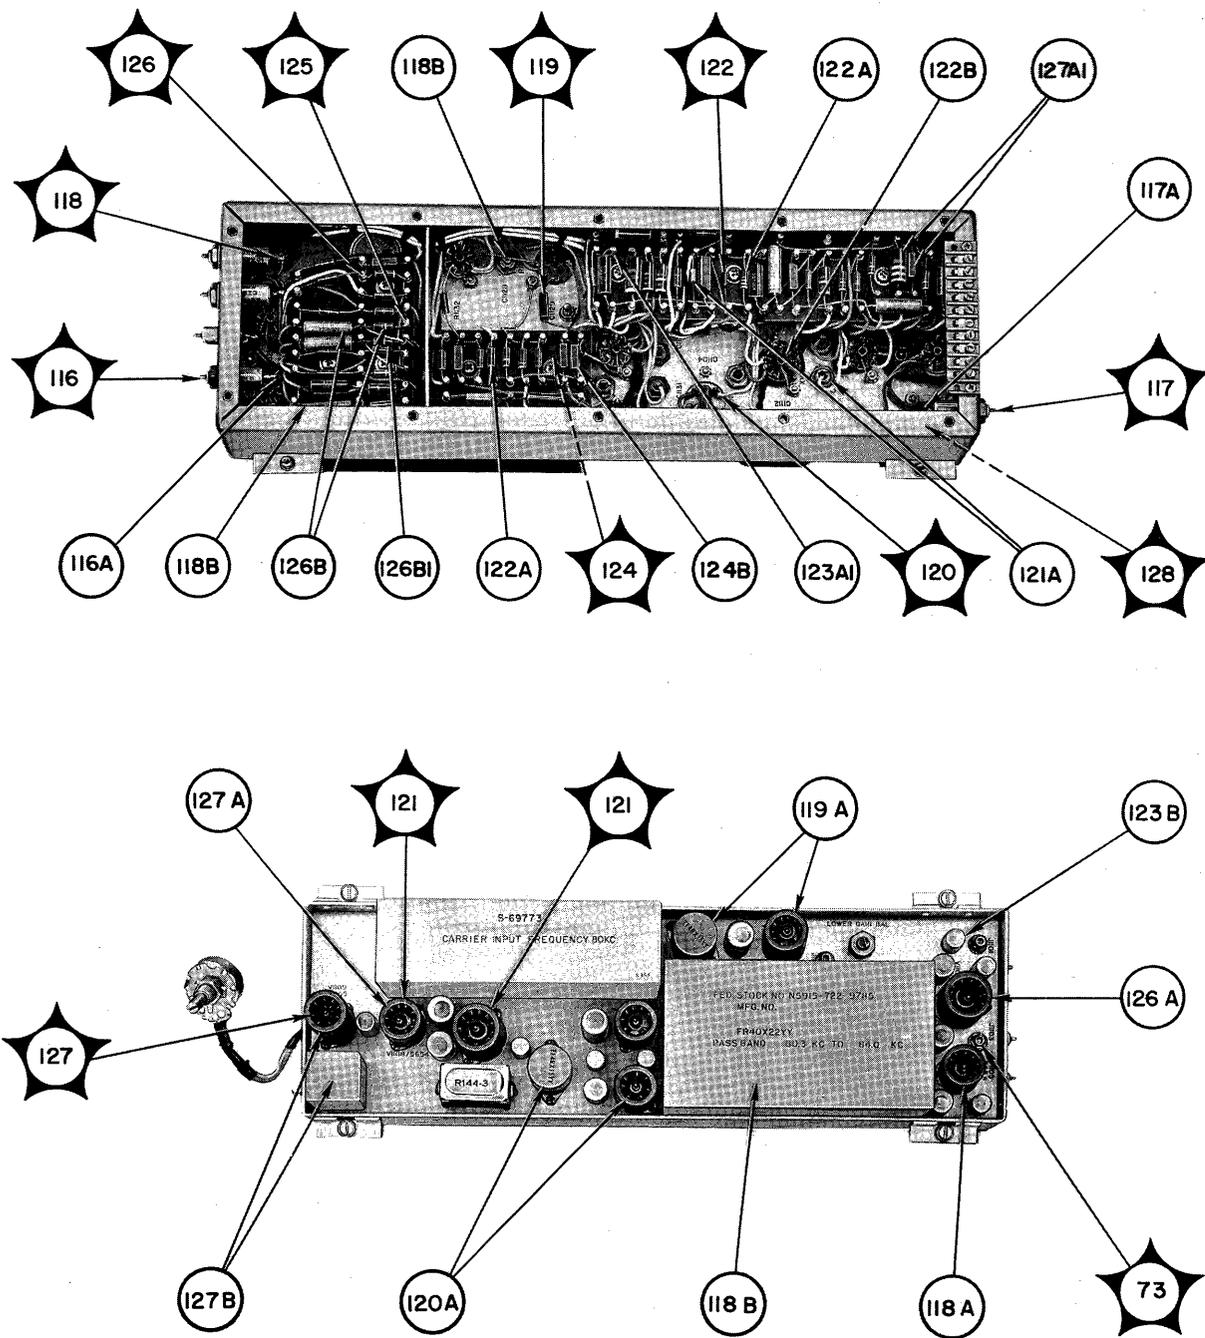

Figure 5-73. LSB Detector-Amplifier, Location of Test Points
b. ACCESS.—The LSB detector-amplifier is located in the lower demodulator deck. Raise the upper deck for access to the top; tilt the whole drawer for access to the bottom. Figure 5-72 shows the location of parts and figure 5-73 the location of test points.
- (1) Seating of tubes V1101 through V1109 in their sockets
- (2) Cable connections at J1101, J1102, J1103, and TB1101
- (3) Soldered connections at chassis feed-through terminals
- (4) Mechanical operation of panel controls A.F. LEVEL LINE A, A.G.C. LOWER ON/S.S.B./OFF, A.G.C. LOWER SLOW/FAST, and RECEPTION A.M./S.S.B.